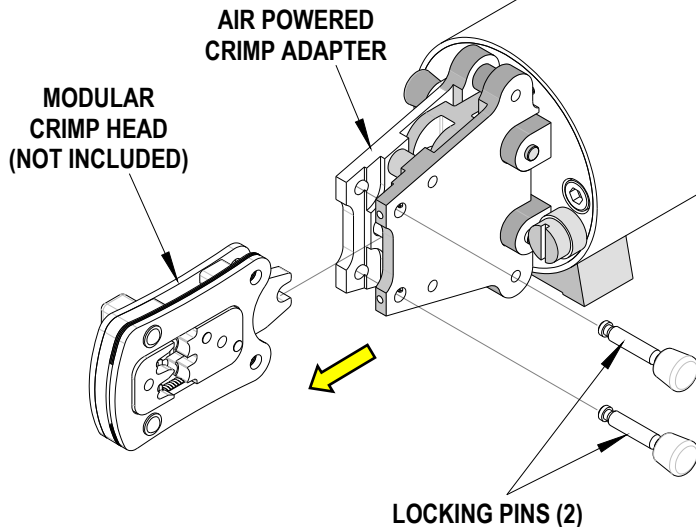

Figure 3-4
- Remove the locking pins (2) from the air powered crimp adapter on the air powered tool.
- Replace the locking pins (2) making sure that the modular crimp head is secure. The locking pins can be inserted from either side of the adapter. See Figure 3-4.